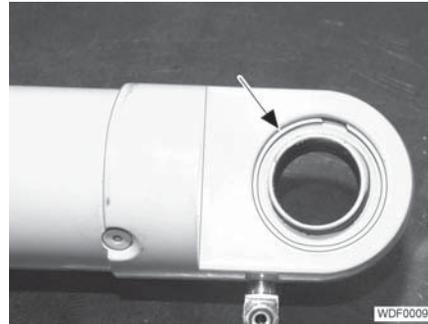

Fig. 110 Securing the bearing
- Remove the locking ring (Fig. 110).